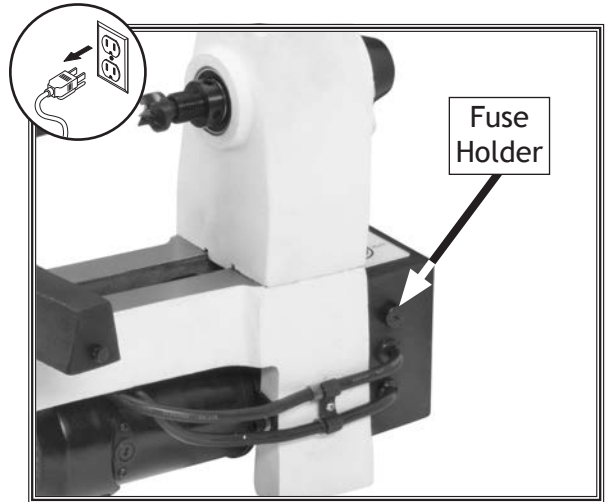

Figure 39. Location of fuse holder.
2. Remove fuse holder on back of switch box (see **Figure 39**).